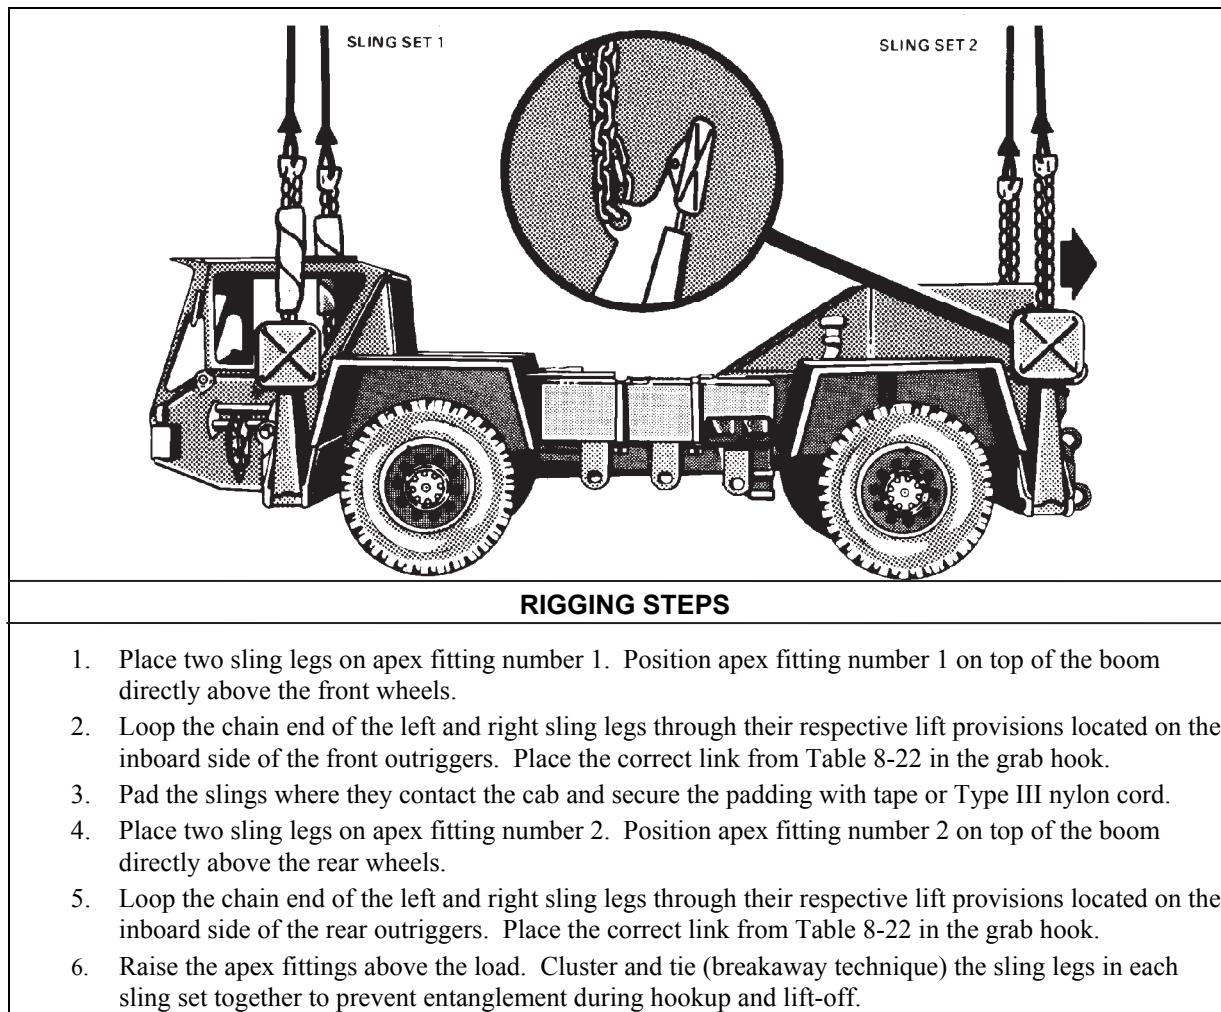

Figure 8-22. LRT-110, 7 1/2-Ton Crane, Power Unit
- **Rigging.** Rig the load according to the steps in Figure 8-22.